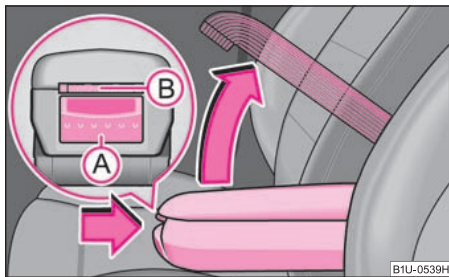

Fig. 95 Armrest: Storage compartment
- Press button **(B)** ⇒ fig. 95.